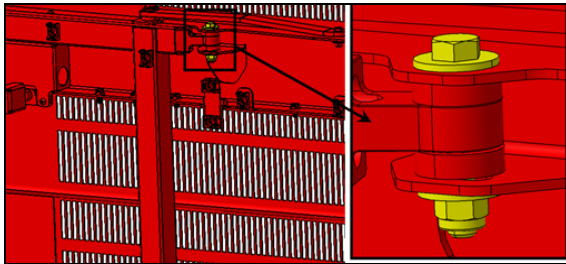

FIGURE 110
6. If the longitudinal position is out of tolerance, adjust using the adjustment provided on the inner side of the door, at the upper attachment point of the arm on the door (FIGURE 110).